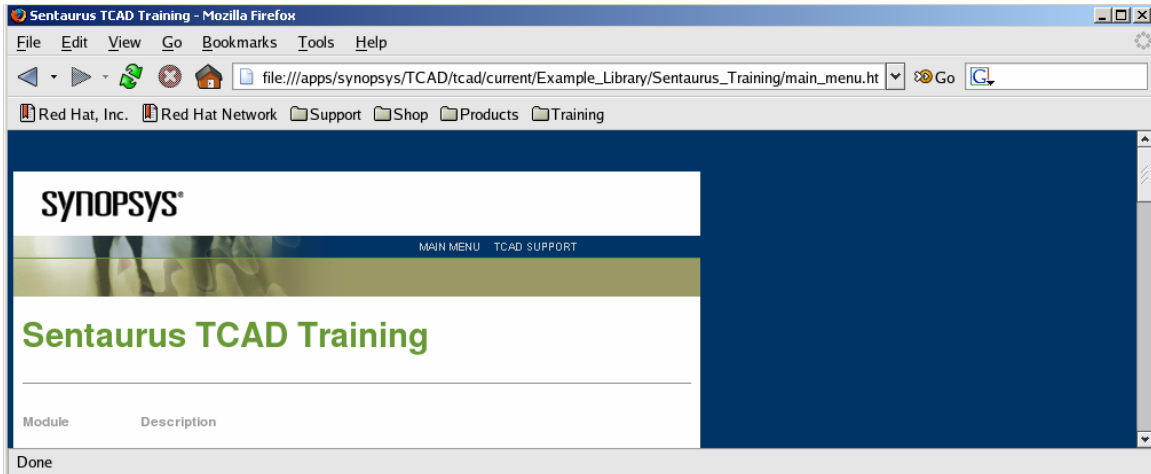
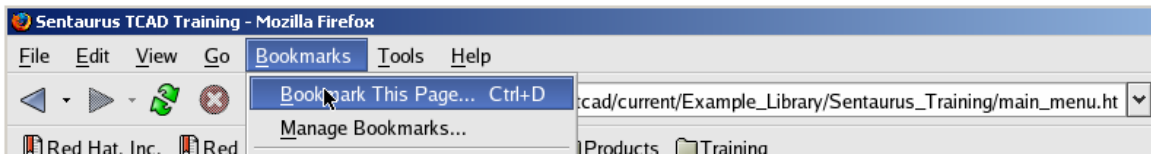

Figure 5: Main Menu of Sentaurus Training.
Figure 6: Bookmark this page.
8. The web browser should look like Figure 5. Bookmark the page by going to Bookmarks.. Book mark this page (Figure 6).